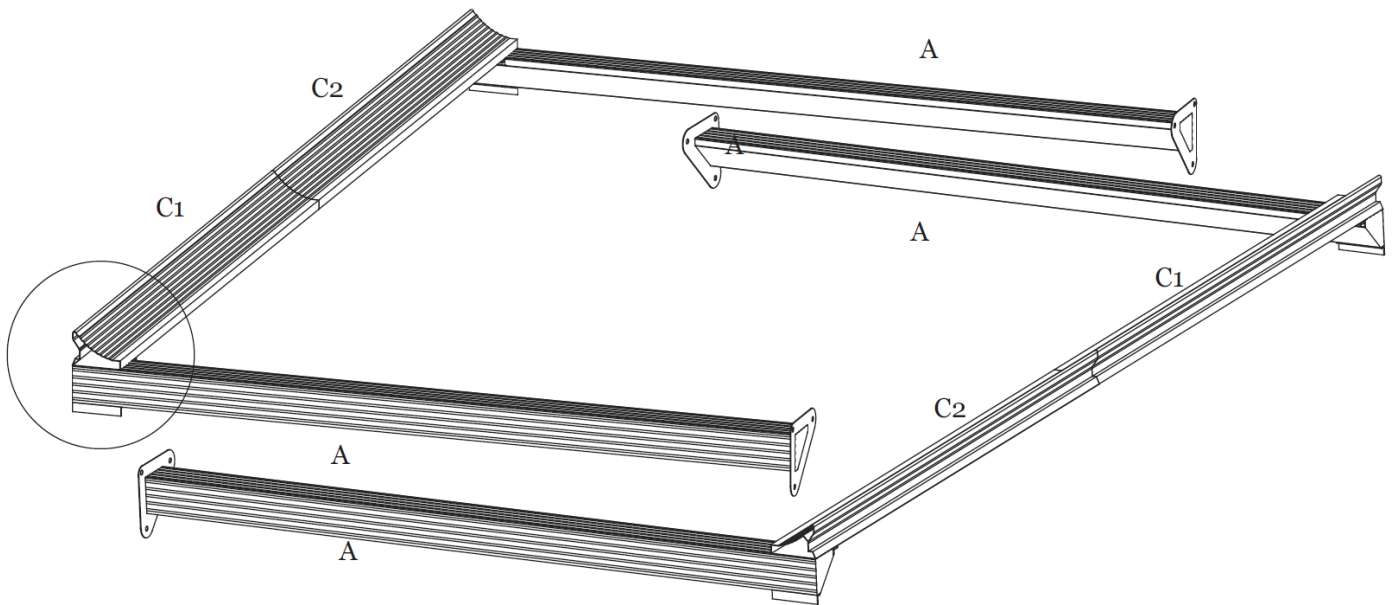

Figure 3-2
Step 3B: Repeat for opposite side Long Lintels (C1 and C2) and Corner Posts (A). See Figure 3-2.